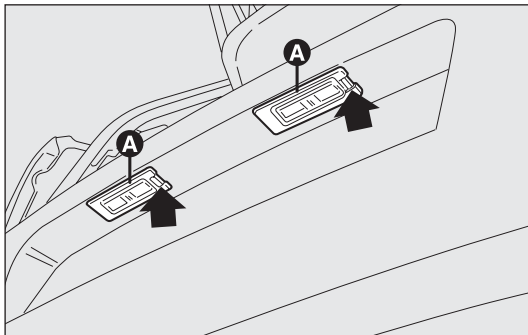

fig. 150
- act on the point shown by the arrow and remove the lens unit A-fig. 150;